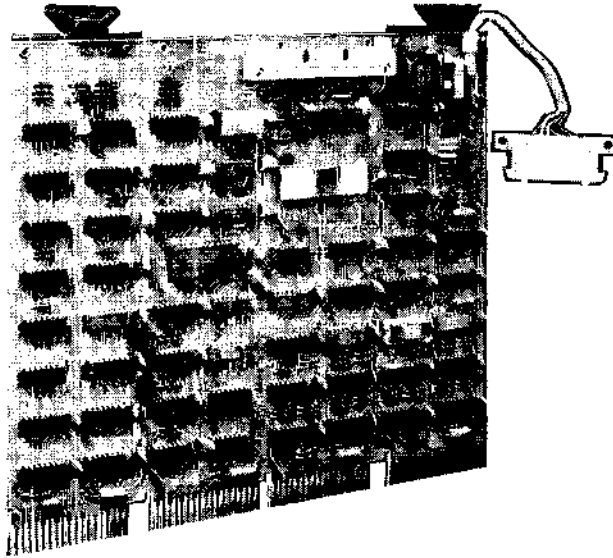

Figure 1-1 Processor Module
*Processor Module (Figure 1-1)*